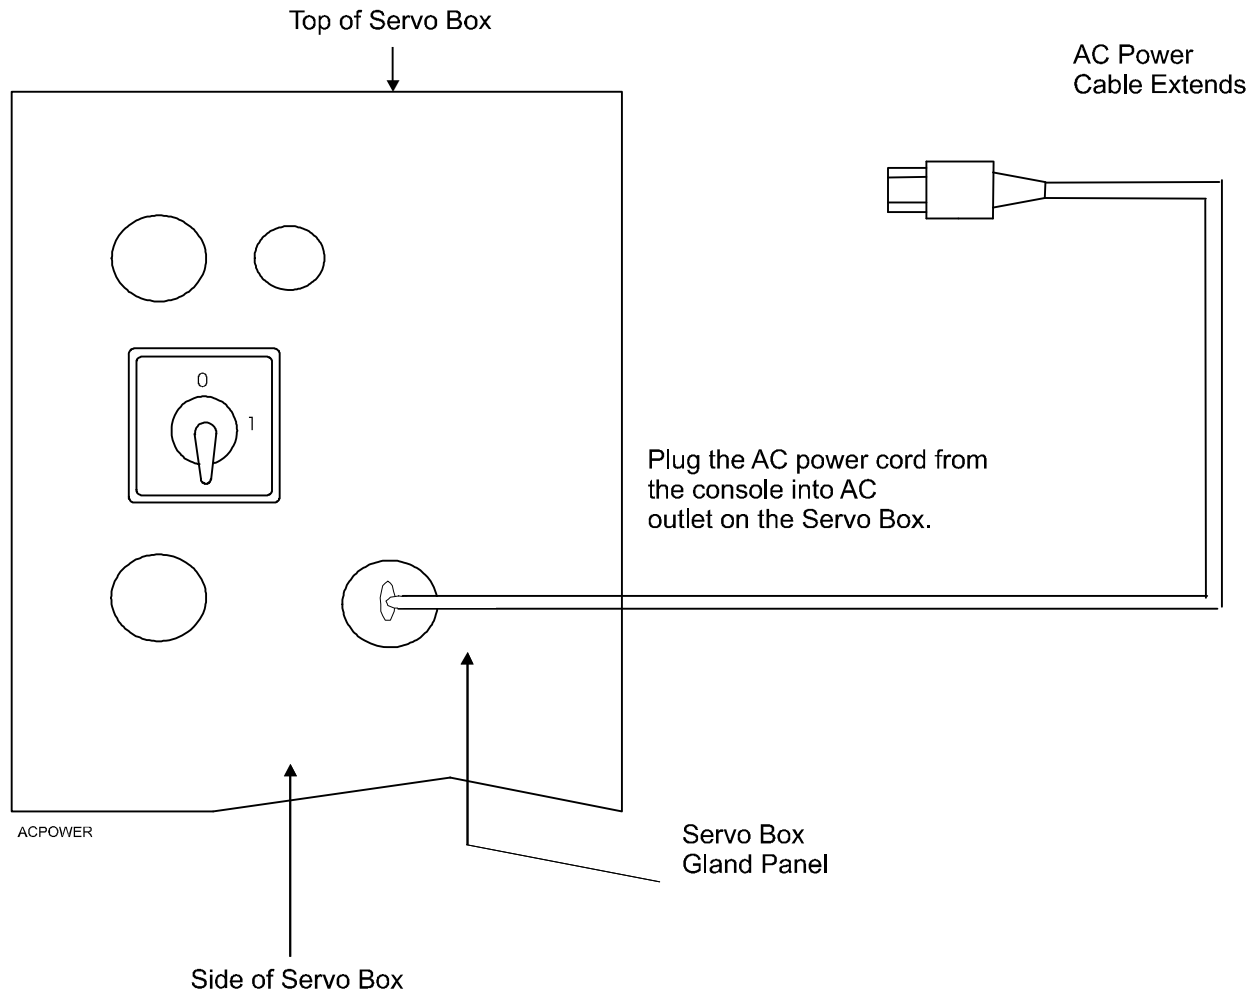

Figure 3-29, Monitor AC Power Connection
21. Refer to **Figure 3-29, Monitor AC Power Connection**. Locate the AC power cord extending from the rear bottom of the console.